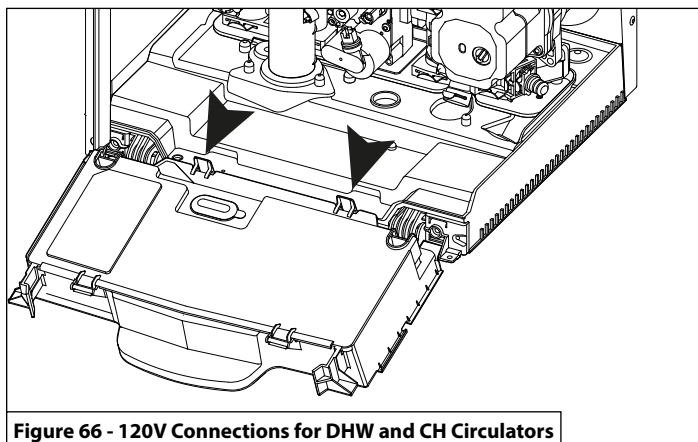

Figure 66 - 120V Connections for DHW and CH Circulators
5. Disconnect the two clips See Figure 66.